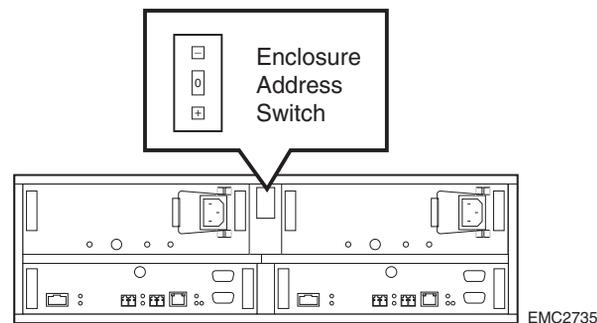

Figure 2-1 Enclosure Address Switch (CX300 Shown)
1. Make sure the enclosure address for the CX300/CX300i is set to 0. Refer to Figure 2-1.
See Figure 2-1 and Figure 2-8 as necessary.